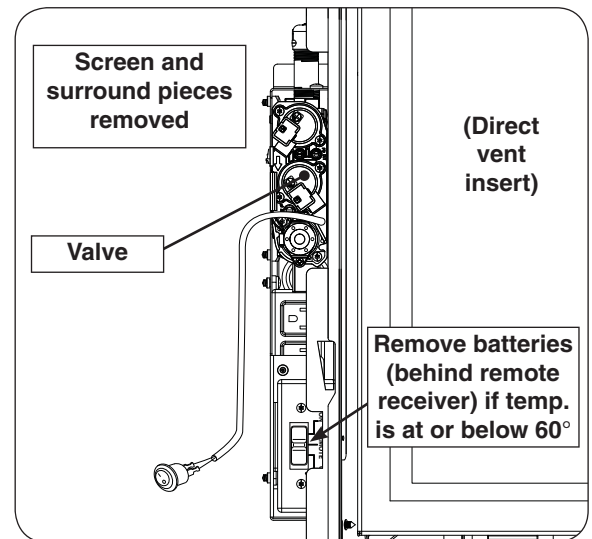
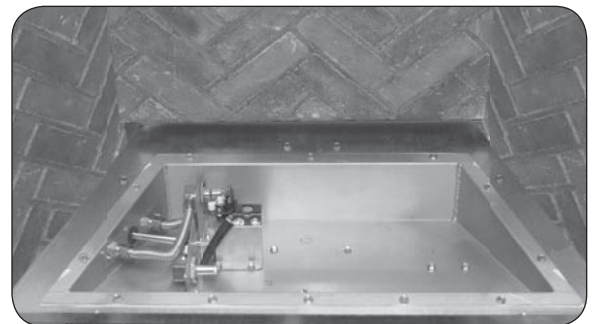

Fig. 1-1 Gain access to control box
Fig. 1-2 Gain access to interior of unit
6. At this stage, the insert should appear similar to that of Fig. 1-1 and Fig. 1-2.